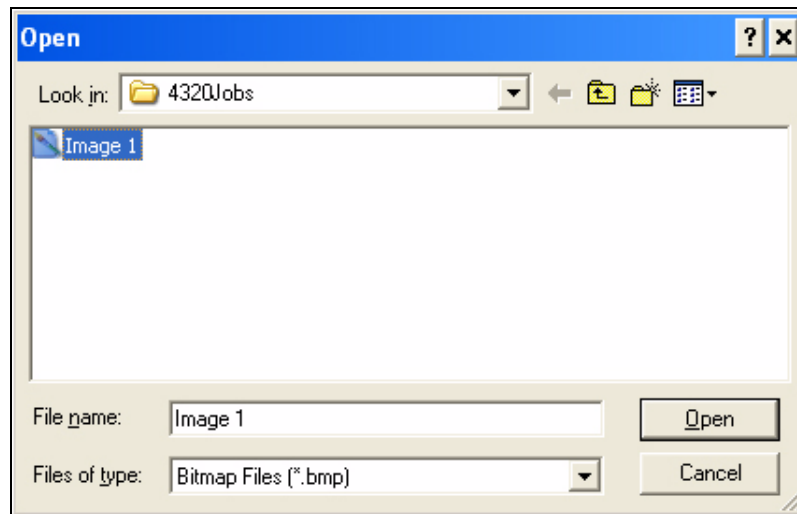

Figure 4-16: Bitmap Link Screen
- 4 Browse to the location of the bitmap that you require for your image (Figure 4-16 on page 4-14).